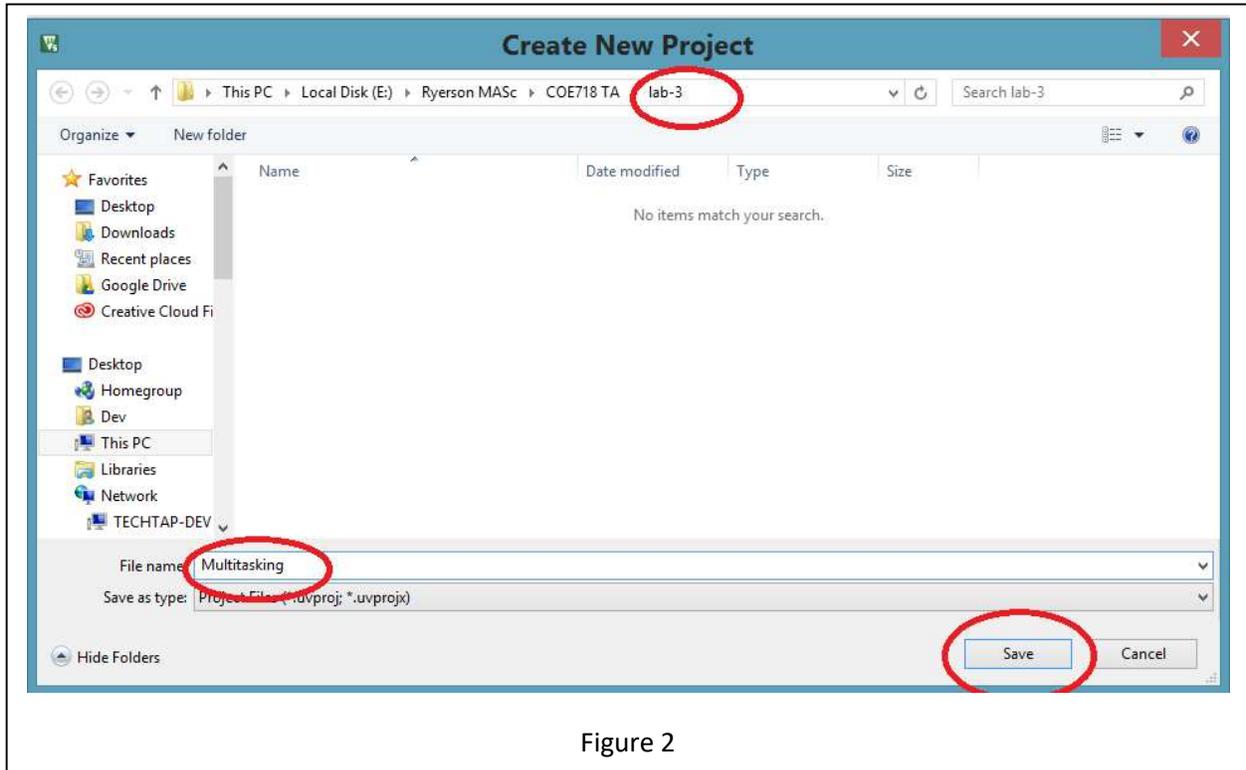

Figure 2
- You should see a window shown in Figure 2. Select the icon for "New Folder" and name your working folder "Lab3". Then name the project as "Multitasking" and Press Save.